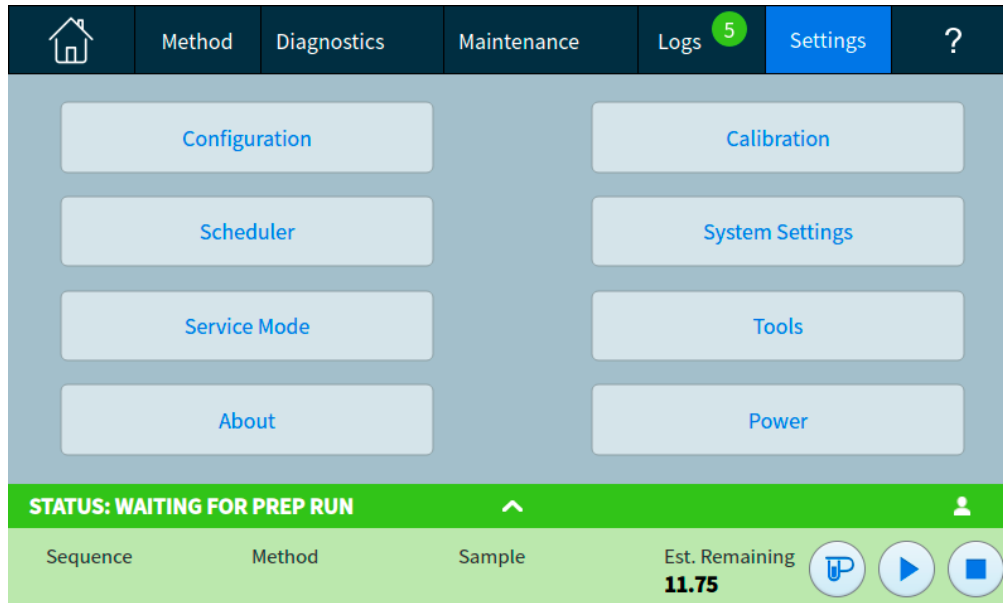

Figure 51. Settings view
- 1 Select **Settings**. The Settings view appears. See **Figure 51**.